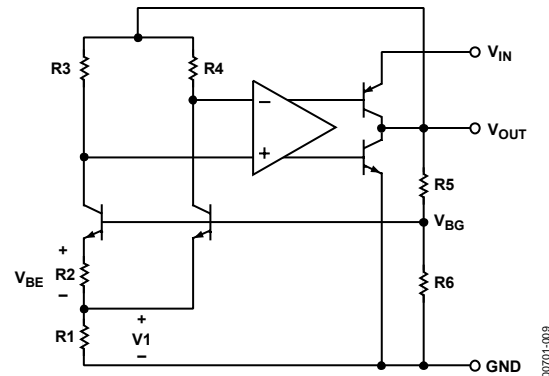

Figure 9. Simplified Schematic
The AD1582/AD1583/AD1584/AD1585 family uses the band gap concept to produce stable, low temperature coefficient voltage references suitable for high accuracy data acquisition components and systems. This family of precision references uses the underlying temperature characteristics of a silicon transistor's base emitter voltage in the forward-biased operating region. Under this condition, all such transistors have a $-2 \text{ mV}/^\circ\text{C}$ temperature coefficient (TC) and a V_{BE} that, when extrapolated to absolute zero, 0 K (with collector current proportional to absolute temperature), approximates the silicon band gap voltage. By summing a voltage that has an equal and opposite temperature coefficient of $2 \text{ mV}/^\circ\text{C}$ with the V_{BE} of a forward-biased transistor, an almost 0 TC reference can be developed. In the AD1582/AD1583/AD1584/AD1585 simplified circuit diagram shown in Figure 9, such a compensating voltage, V_1 , is derived by driving two transistors at different current densities and amplifying the resultant V_{BE} difference (ΔV_{BE} , which has a positive TC). The sum of V_{BE} and V_1 (V_{BG}) is then buffered and amplified to produce stable reference voltage outputs of 2.5 V, 3 V, 4.096 V, and 5 V.